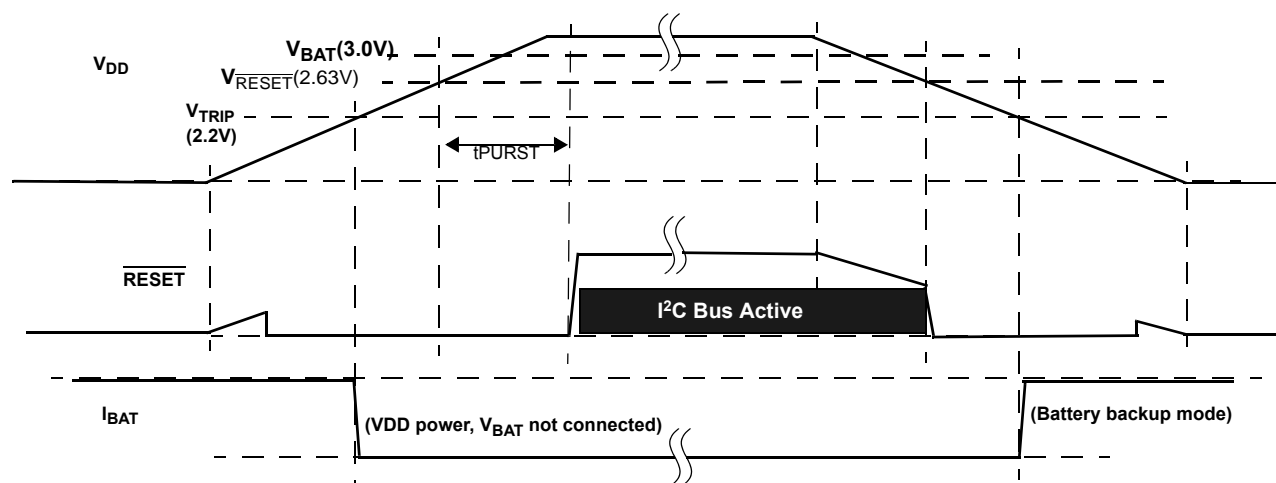

FIGURE 29. EXAMPLE RESET OPERATION IN MODE A OR C
- Mode A - In this mode selection bits indicate a low V_{DD} switchover combined with I²C operation in battery backup mode. In actuality the V_{DD} will go below V_{RESET} before switching to battery backup, which will disable I²C ANYTIME the device goes into battery backup mode. Regardless of the battery voltage, the I²C will work down to the V_{RESET} voltage (See Figure 29).
- Mode D - In this mode the selection bits indicate switchover to battery backup at V_{DD} < V_{BAT}, and no I²C communications in battery backup. This mode is unique in that there is I²C communication as long as V_{DD} is higher than V_{RESET} or V_{BAT}, whichever is greater. This mode is the safest for guaranteeing I²C communications only when there is a Valid V_{DD} (see Figure 29).